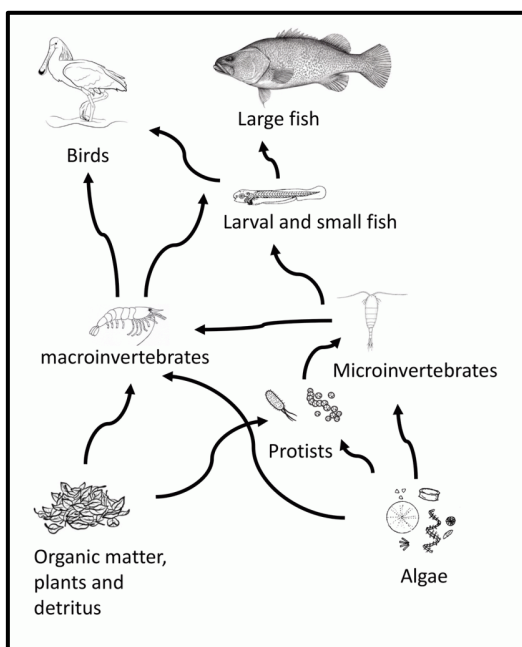

Figure 1. Simplified aquatic food web (Hitchcock, 2021).
- Invertebrates and zooplankton are part of the aquatic food web and provide food for fish, platypuses, birds, bats, and other animals (**Figure 1**).